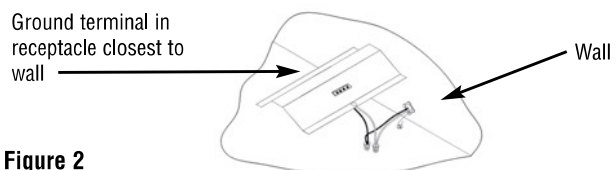
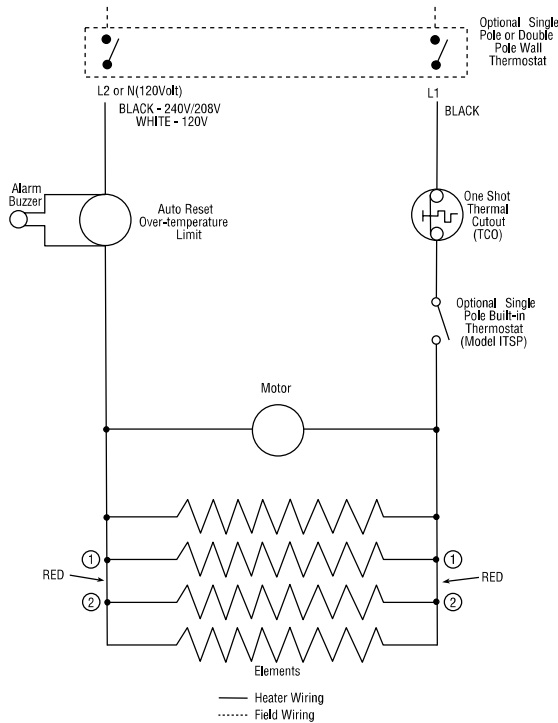

Figure 2
Figure 3
1. Bring supply wire into desired knockout, leaving 6" (152mm) of leads extending into the enclosure as shown in Figure 2.
3. For Model I1500, connect the white (neutral) supply lead to the white receptacle lead and the black line supply lead to the black receptacle lead as shown in Figure 2. (See also wiring diagram shown in Figure 3). For I1504 connect the two black supply leads to the two black receptacle leads. (See wiring diagram shown in Figure 3.)
4. Install junction box cover as shown in Figure 2.
The heater wattage may be reduced from 1500W to 750W by removal of two (2) red jumpers (Figure 3).